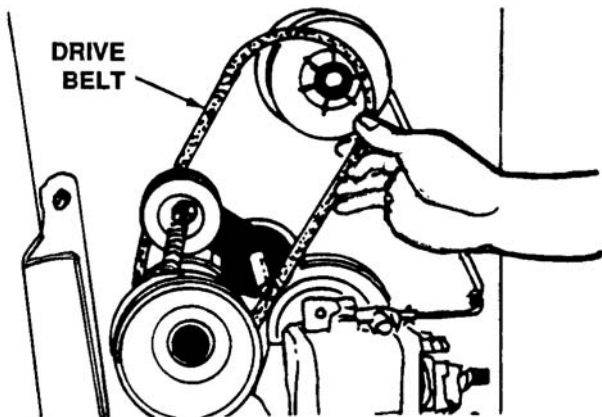

Figure 7-18. Removing Drive V-Belt
10. Remove and replace the V-belt. See Figure 7-18.